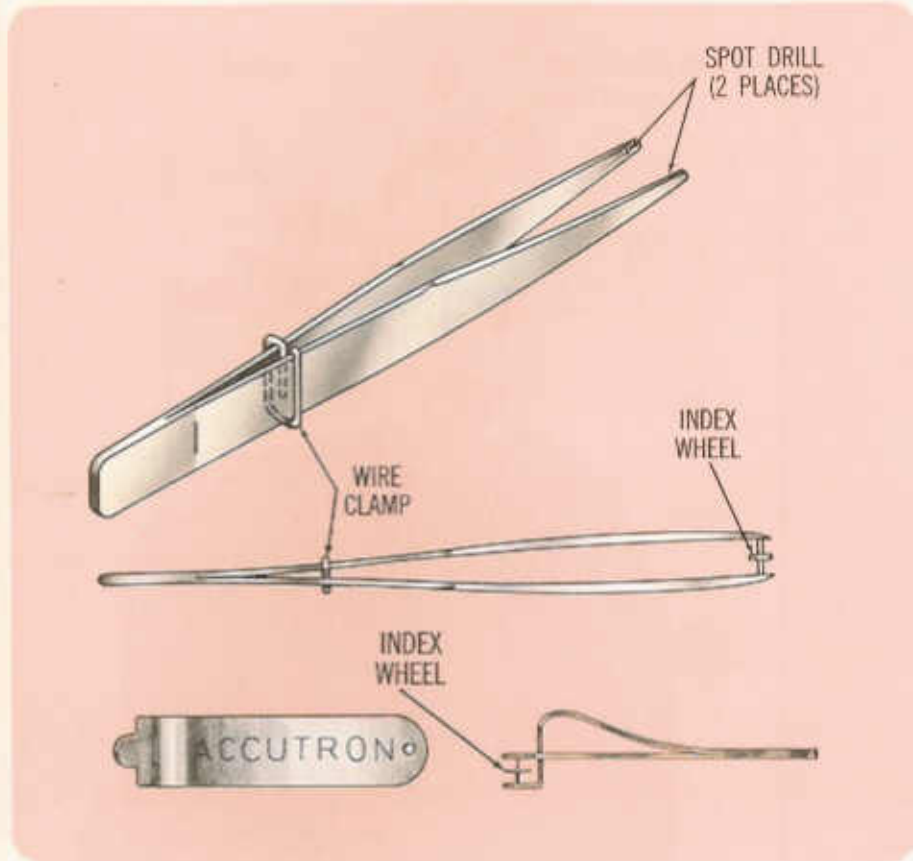

Fig. 32
1. Spot drill the insides of the tweezer tips as shown in the upper section of Fig. 32.
Note: Authorized Material Distributors can supply, at nominal cost, a special Index Wheel Holder illustrated in lower section of Fig. 32.